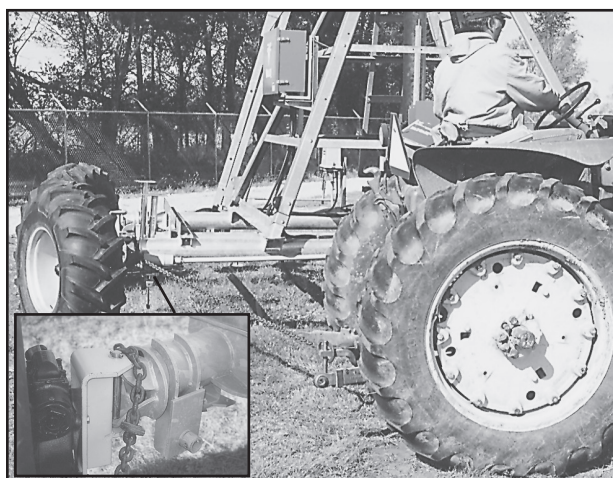

Figure 78-3 Rotate cart 90°
6. Lower the cart, rotate the jacks to the horizontal position then pivot the cart 90° in the direction the machine will be rotated. See Figure 78-3